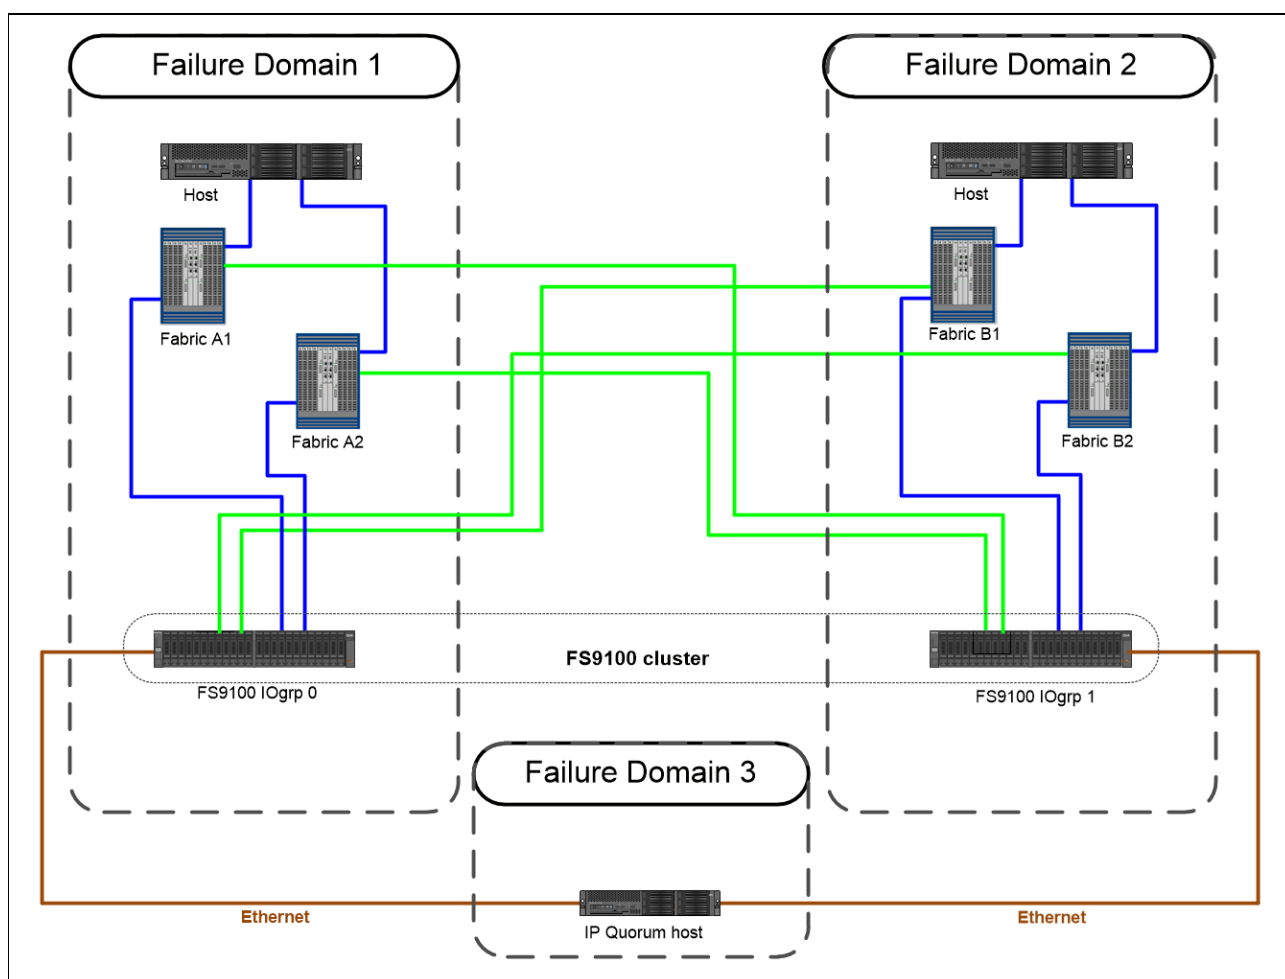

Figure A-5 FS9100 HyperSwap No ISL configuration
Figure A-5 shows the typical HyperSwap No ISL configuration.
- ▶ Use dedicated ports for the node-to-node connectivity. Considering the configuration in Figure A-5 on page 408 at least four per-node canisters are needed. Two of this ports' per-node canisters have to be attached to the switches at the remote site.